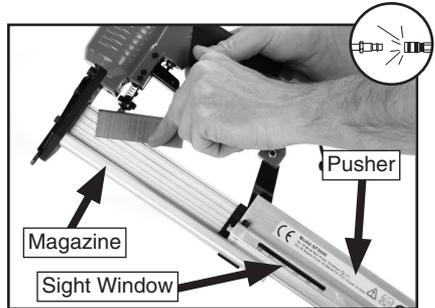

Figure 4. Loading nails into magazine.
3. Insert a strip of brads or staples, pointed-end down, into the magazine as shown in **Figure 4**.
6. Reload the nailer when the magazine sight window (**Figure 4**) shows the nail or staple level is low. The sight window shows up to approximately 50 nails or staples loaded.